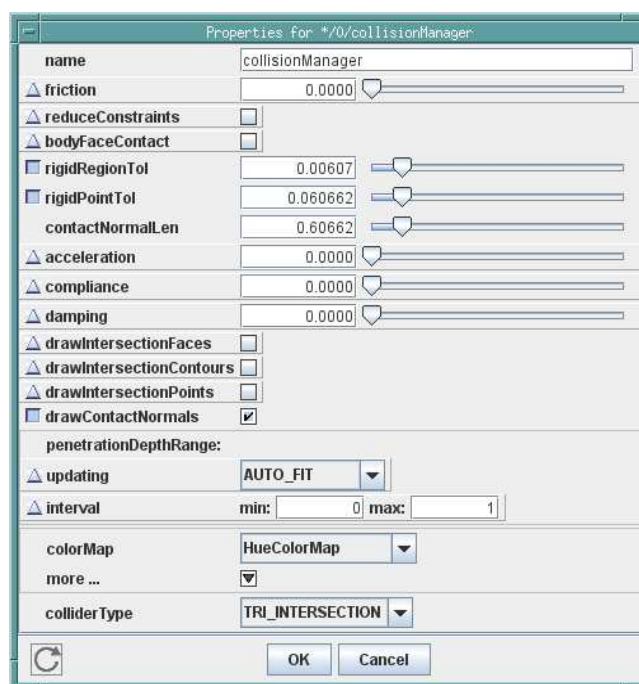

Figure 45: Property panel for the collision manager.
- More detailed collision control can be realized by selecting the `MechModel`'s collision manager in the navigation panel (Section 4.2). Choosing `Edit properties ...` or `Edit render props ...` from the right context menu then allows other properties to be set to control either the collision behavior or the rendering of collisions. A sample property panel is shown in Figure 45, and these properties are described in the "Collision Handling" section of the ArtiSynth Modeling Guide.